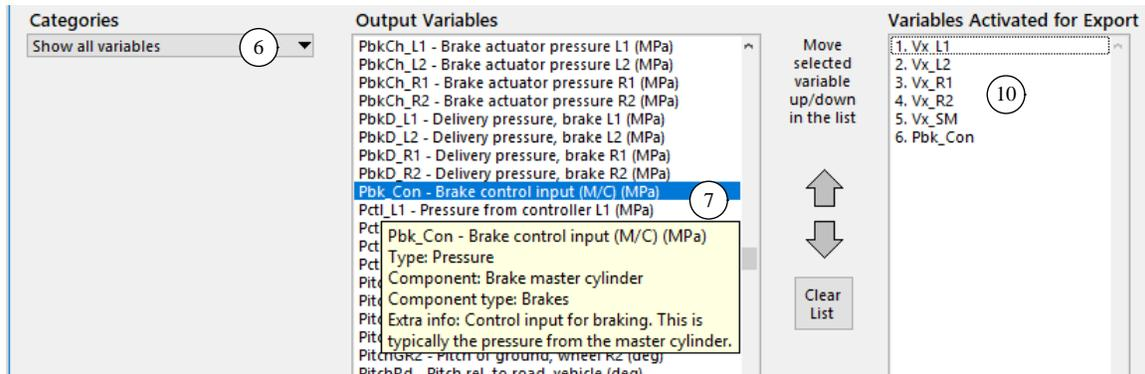

Figure 33. Six variables activated for Export in CarSim and TruckSim examples.
The list **Variables Activated for Export** (10) should match Figure 33.